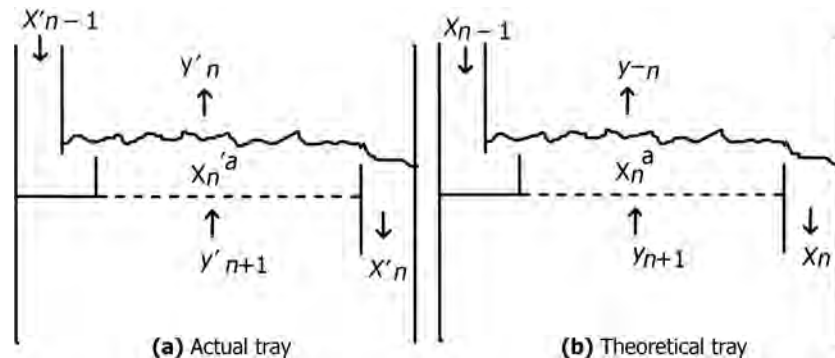

FIGURE 16.11 Murphree tray efficiencies illustrated.
- Figure 16.11 illustrates the compositions of flows for actual and theoretical trays.